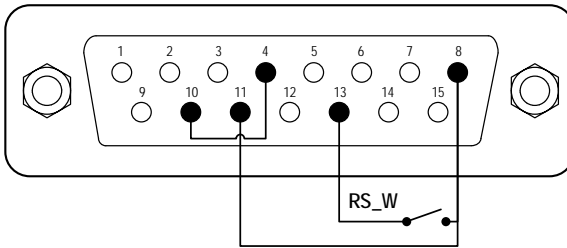
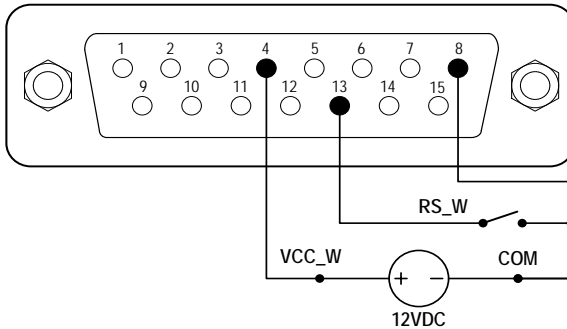

Figure 46. Control Start/Stop with Internal 12V Power Source
Figure 47. Control Start/Stop with External 12V Power Source
- 1) Power off the pump. Wire the DB15 connector as shown in Figure 46 or Figure 47, and connect it to the DB15 port located at the rear